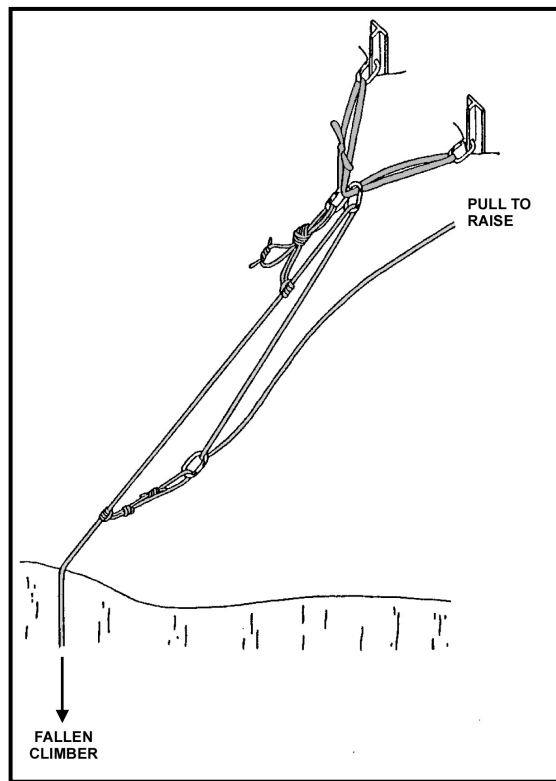

Figure 10-27. Z-pulley hauling system.
(4) **Z-Pulley Hauling System.** If a fallen climber is injured or unconscious, he will not be able to offer any assistance in the rescue. If additional rope teams are not immediately available, a simple raising system can be rigged to haul the victim out of the crevasse. The Z-pulley hauling system is one of the simplest methods and the one most commonly used in crevasse rescue (Figure 10-27, page 10-32). The basic Z rig is a “3-to-1” system, providing mechanical advantage to reduce the workload on the individuals operating the haul line. In theory, it would only take about 33 pounds of pull on the haul rope to raise a 100-pound load with this system. In actual field use, some of this mechanical advantage is lost to friction as the rope bends sharply around carabiners and over the crevasse lip. The use of mechanical rescue pulleys can help reduce this friction in the system. The following describes rigging of the system. (This scenario is for a team of three, each person referred to by position; the leader is number 1.)